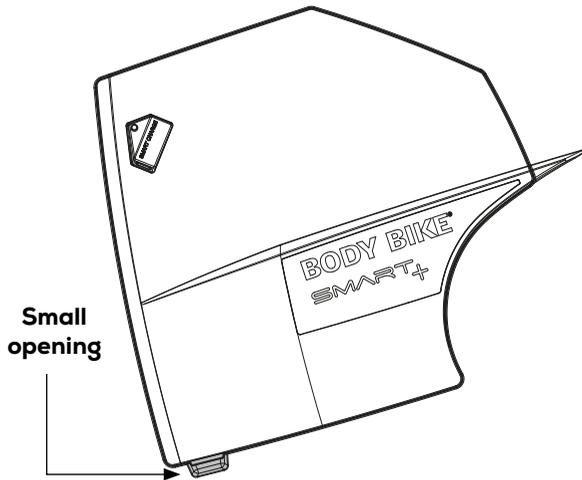

Figure 23
- 1) Open the service hatch as shown in figure 23.
- 1) Remove the service hatch. See figure 23.
6) Remove the service hatch. See figure 23.
Most maintenance and actions can be done through the service hatch. Pull out the service hatch in the small opening as shown in figure 23.
To get to the brake block, it is necessary to remove the service hatch. See figure 23.
- 1) Remove the service hatch on both sides of the cycle. See figure 23.